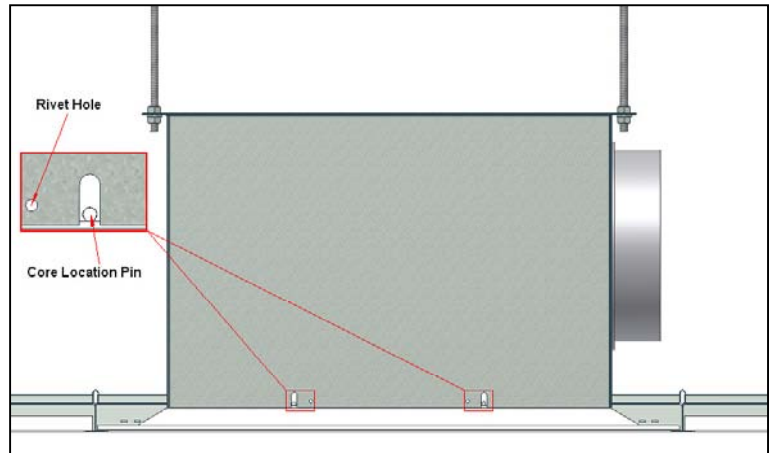

*Figure 4: Drop Diffuser into position*
- Place the Diffuser into the opening, ensuring that it is firmly seated against the tee bars of the ceiling grid. (See figure 4).